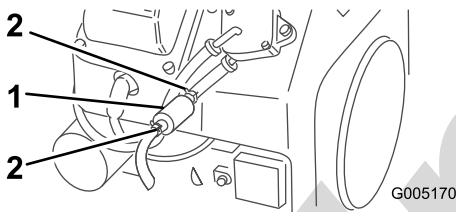

Figure 28
4. Squeeze the ends of the hose clamps together and slide them away from the filter (Figure 28).
5. Place a drain pan under the fuel lines to catch any leaks, then remove the filter from the fuel lines (Figure 28).